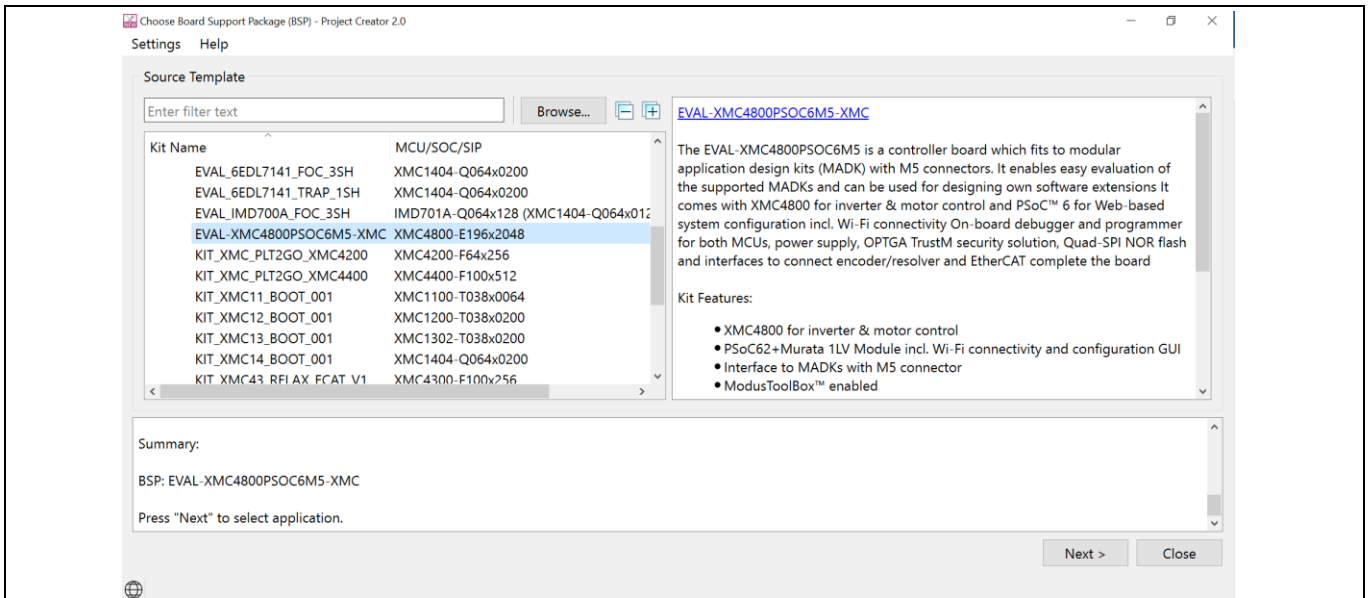

Figure 10 Select the BSP
- Return to the Source Template window (see Step 5) and select the kit name EVAL-XMC4800PSOC6M5-XMC from the XMC™ BSPs category. Click **Next** (see Figure 10).